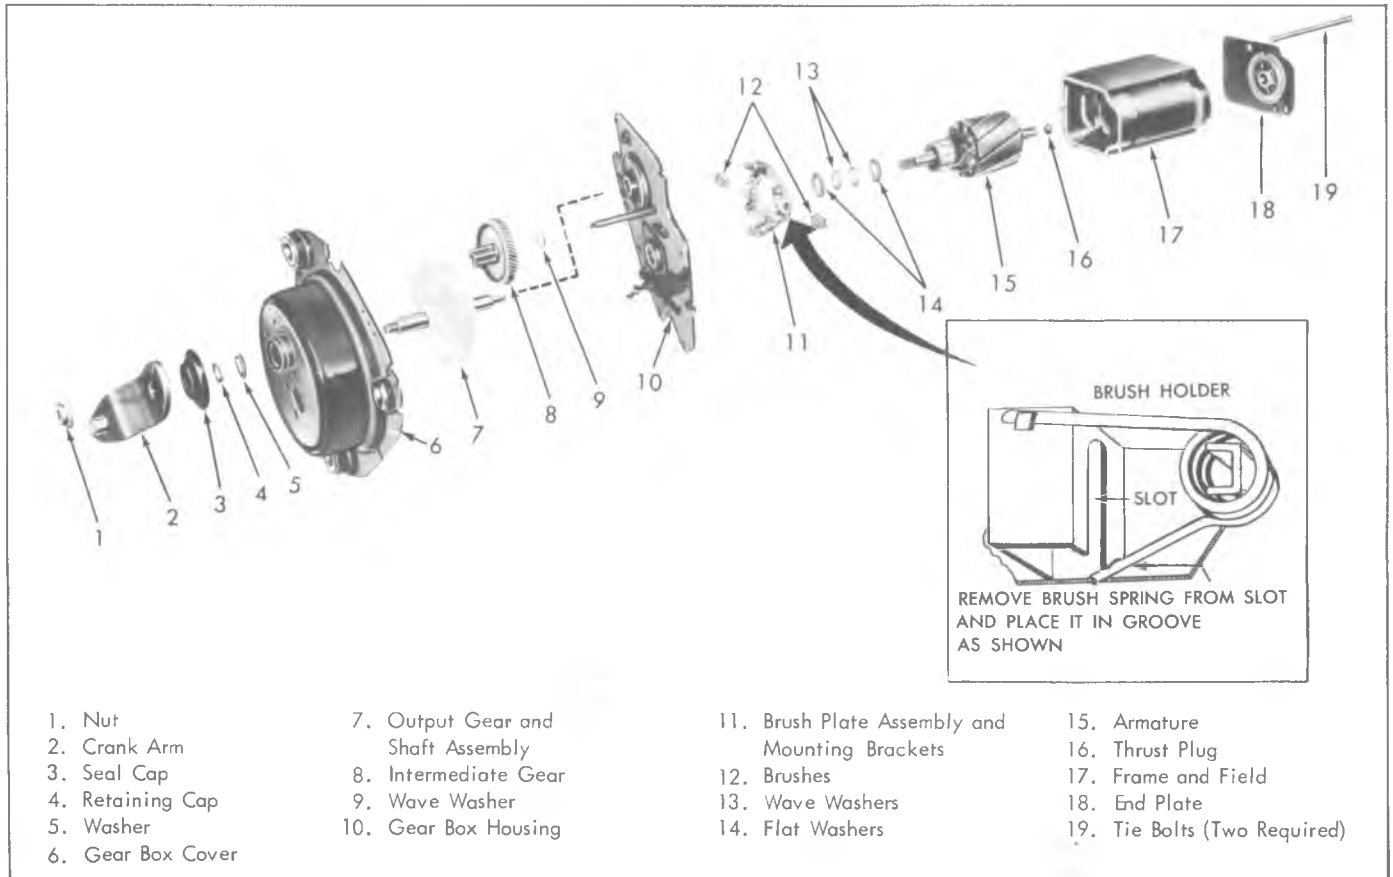

Fig. 18—Wiper Motor & Gear Box Assembly
WIPER MOTOR DISASSEMBLY (Fig. 18)
3. Remove brush spring tension (fig. 18), slide armature and end plate from motor frame. Pull end plate from armature.
Refer to Figure 18 for exploded view of motor and gear train.